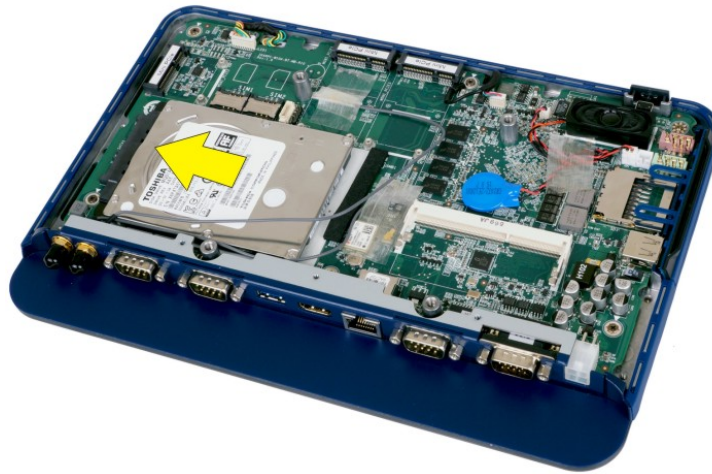

Figure 3-7: HDD Installation
Step 4: Gently slide a HDD into the on-board SATA connector to install the HDD (**Figure 3-7**).